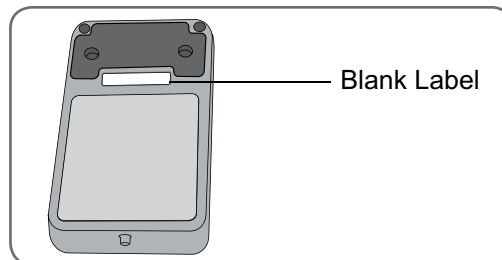

Figure 9-4: Label on the RF Stim Unit for the System ID Number.
4. Locate the System ID Number on the NESS L300 carrying case (for example, A334). Write the number on the blank label on the back of the new RF Stim Unit. See Figure 9-4. This number identifies which NESS L300 system the new RF Stim Unit will register to.